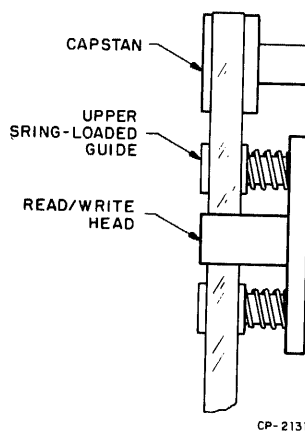

Figure 5-51 Location of Upper Spring-Loaded Guide on Capstan
- b. While tape is running forward, move upper spring-loaded guide (Figure 5-51) away from tape. Skew jitter must not increase more than  $2 \mu\text{s}$  (take care not to touch tape).